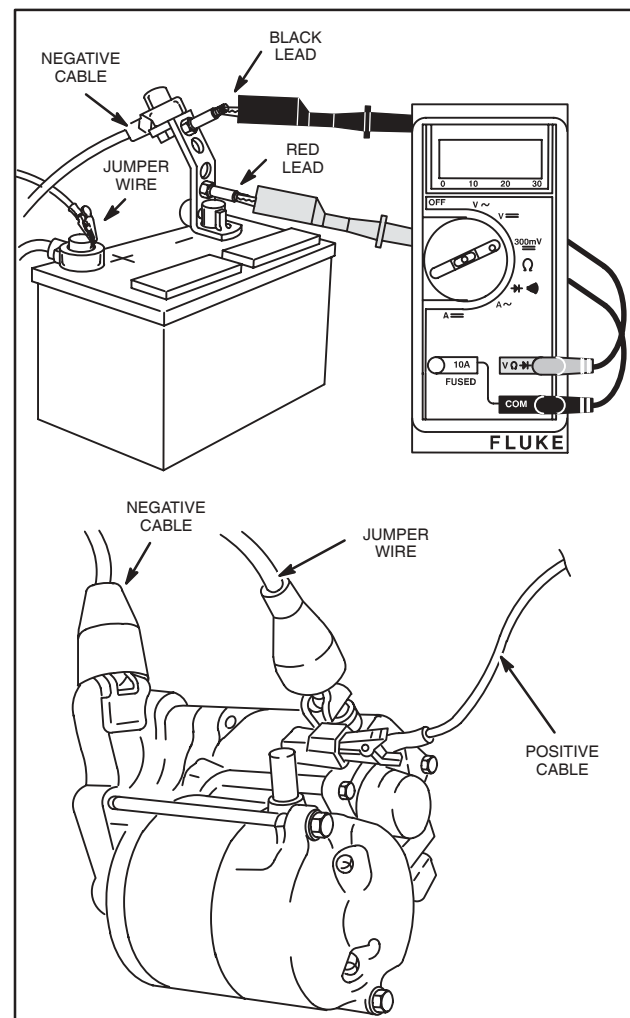

Fig. 49 – No Load Starter Current Draw Test
The DC Shunt **must** be installed on the **negative (-)** terminal of the battery, Fig. 49.
5. Attach one end of jumper wire to solenoid tab terminal, Fig. 49.
6. Activate starter by contacting positive battery terminal with other end of jumper wire, Fig. 49.